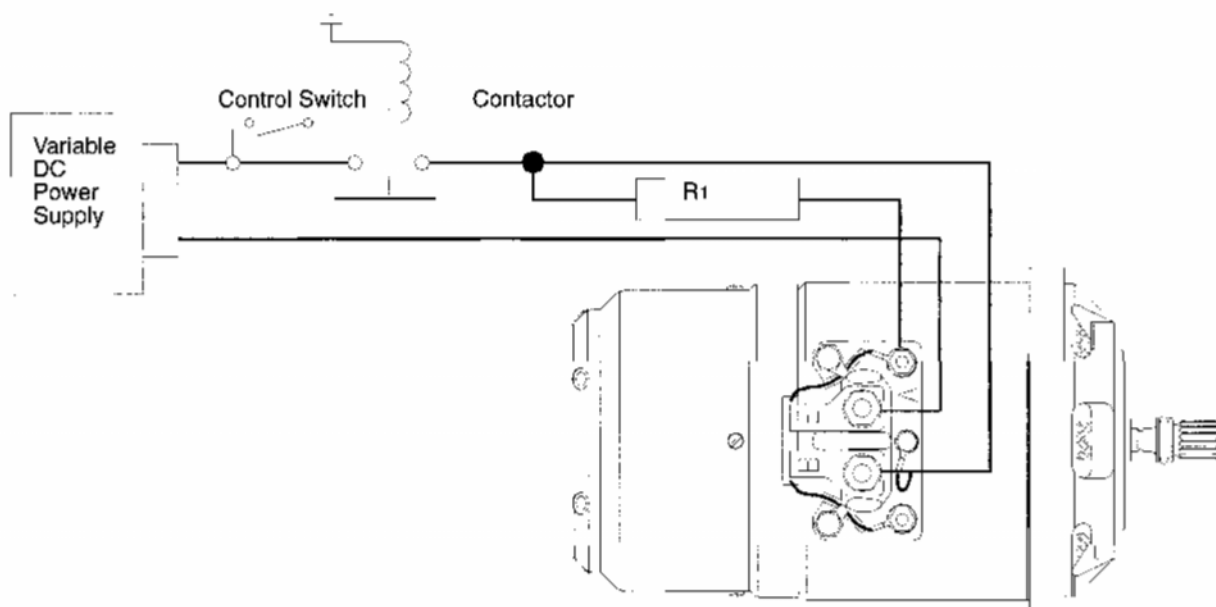

Figure 15 - Run-In by Motoring Electrical Connections
- (1) Make all the electrical connections. (Ref Figure 15)
- (2) Close the switch to energize the circuit.